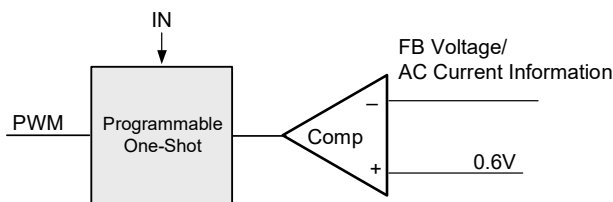

Figure 3. Simplified Control Schematic of AOZ2262NQL-12
The simplified control schematic is shown in Figure. 3. The high-side switch on-time is determined solely by a one-shot whose pulse width can be programmed by one external resistor and is inversely proportional to input voltage (IN). The one-shot is triggered when the internal 0.6V is higher than the combined information of FB voltage and the AC current information of inductor, which is processed and obtained through the sensed lower-side MOSFET current once it turns-on. The added AC current information can help the stability of constant-on time control even with pure ceramic output capacitors, which have very low ESR. The AC current information has no DC offset, which does not cause offset with output load change, which is fundamentally different from other V^2 constant-on time control schemes.